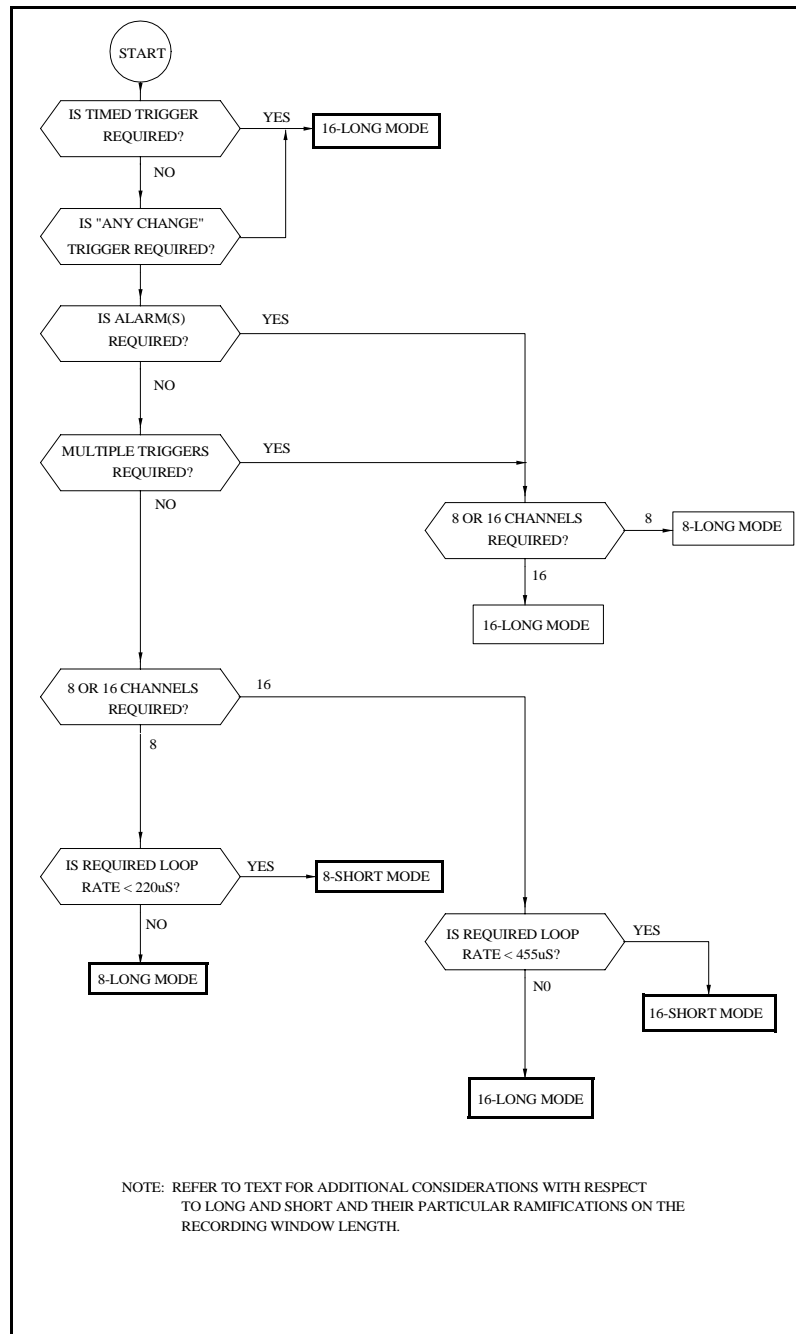

Figure 5.3 Record Mode Selection Flowchart
**Note** A detailed explanation of the Loop Rate can be found in "Appendix K: Memory Utilization / Loop Rate Theory" on page 8-21. Although it is not critical that the information explained in this Appendix be read, a basic understanding of the concepts involved will help in setup and application of the Crakker. The Record Mode selection flow chart (Figure 5.3) can be used to select the desired Record Mode for most applications.